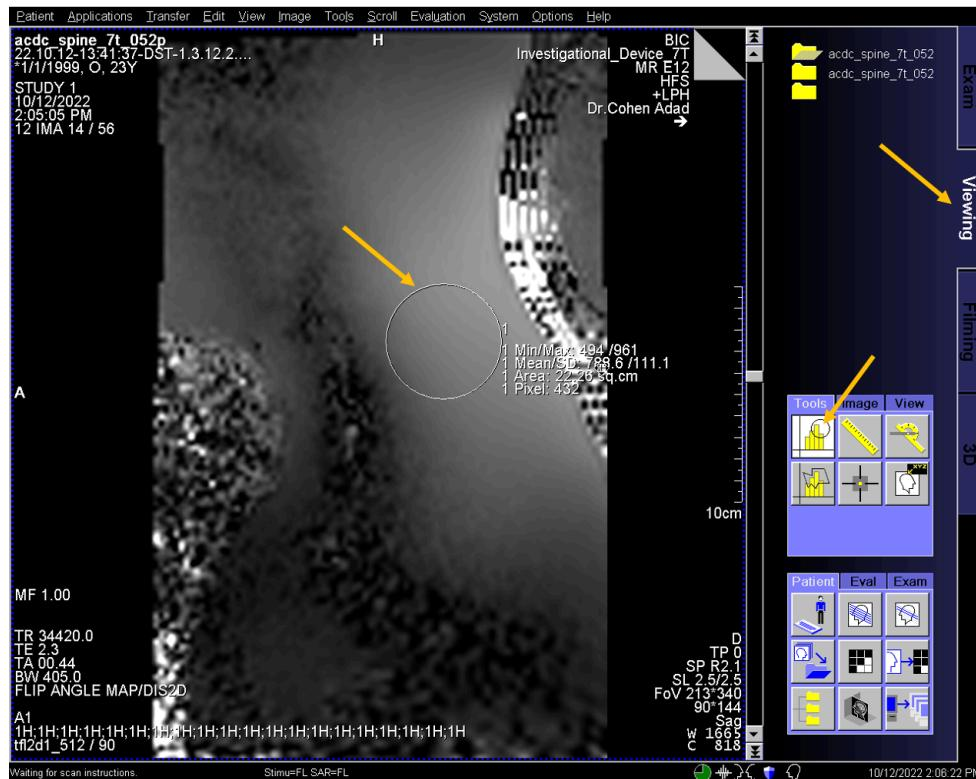

Figure 5. Mean turboFLASH flip angle measurement
- Select the ROI tool and place a circular ROI about 200 pixels in area over the **center of the FOV** at the midline. The placing of the ROI should correspond to the area your coil's transmit profile has been optimized for. See **Figure 5** for ROI placement and size.
- Sanity check for the measured flip angle:** Repeat the procedure described in Figure 5, and validate that the measured flip angle is 90 degrees
- Sanity check for the measured flip angle:** Repeat the procedure described in Figure 5, and validate that the measured flip angle is closer to 90 degrees than in the previous scan
- **Sanity check for the measured flip angle:** Repeat the procedure described in Figure 5, and validate that the measured flip angle is closer to 90 degrees than in the previous scan
- **Sanity check for the measured flip angle:** Repeat the procedure described in Figure 5, and validate that the measured flip angle is 90 degrees